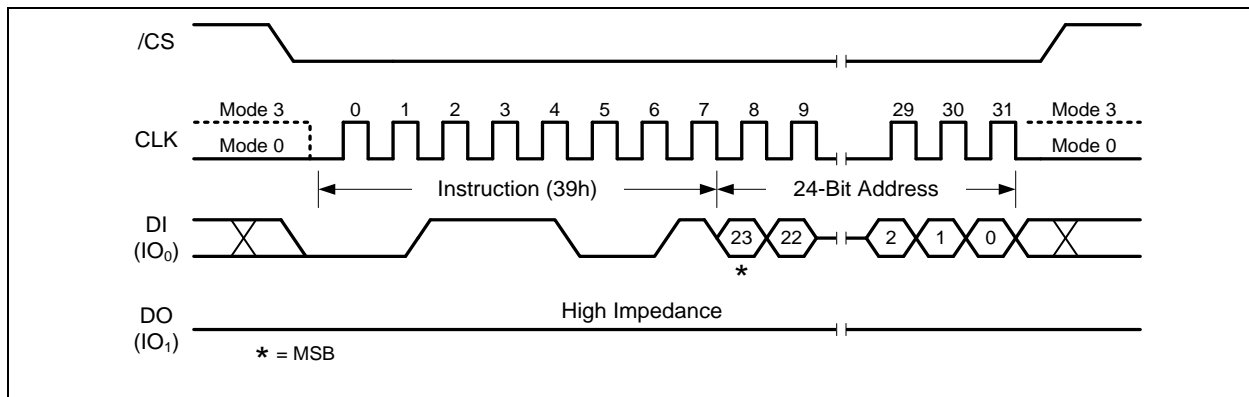

Figure 53. Individual Block Unlock Instruction
To unlock a specific block or sector as illustrated in Figure 53, an Individual Block/Sector Unlock instruction must be issued by driving /CS low, shifting the instruction code "39h" into the Data Input (DI) pin on the rising edge of CLK, followed by a 24/32-bit address and then driving /CS high.